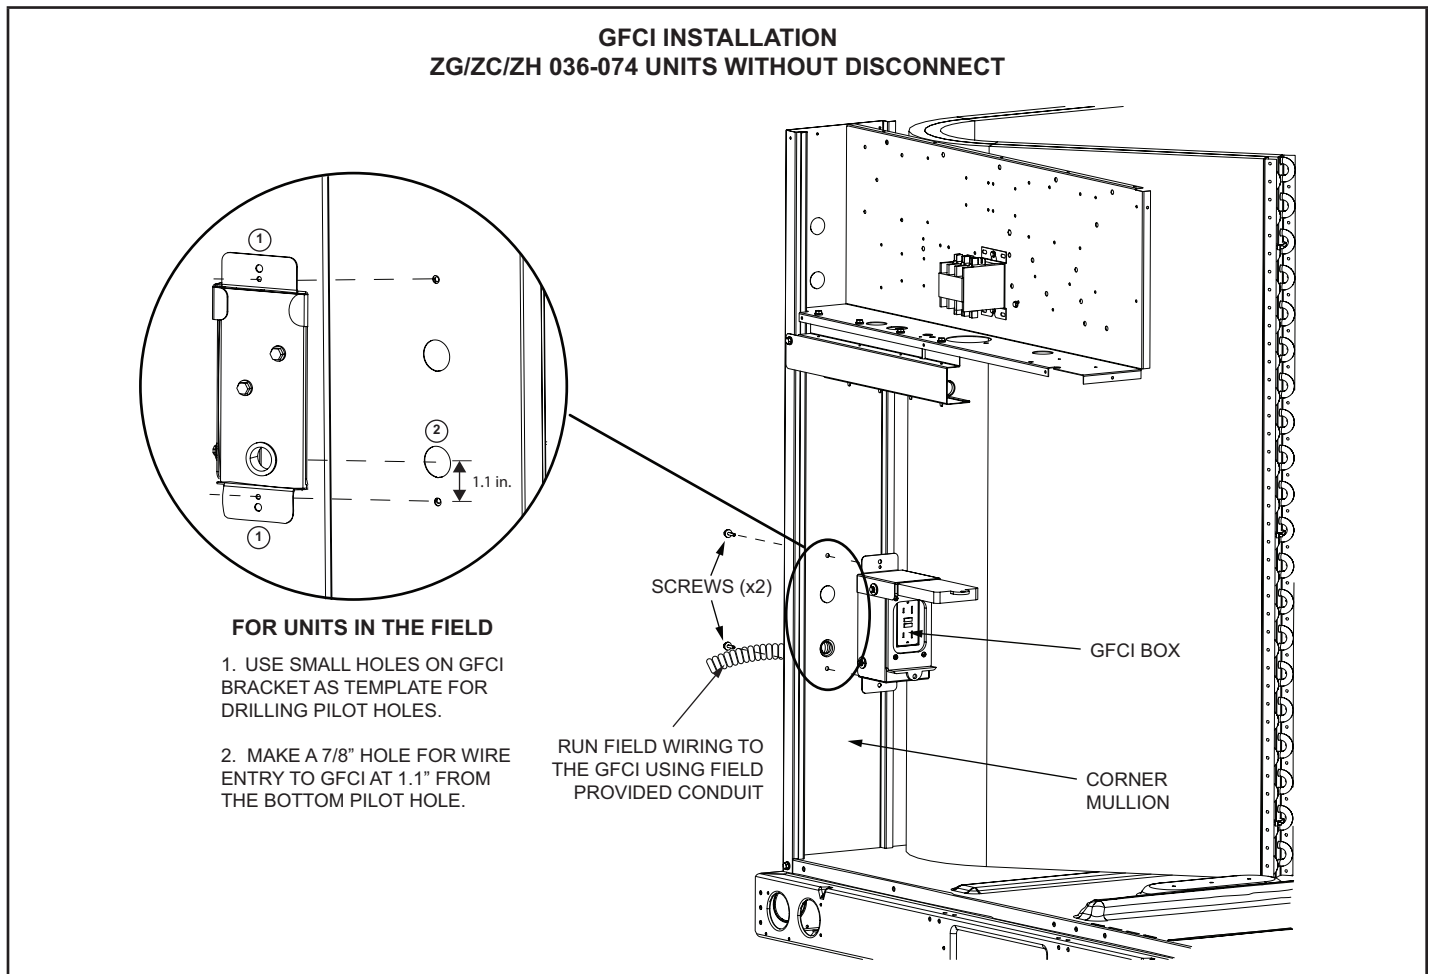

FIGURE 8
- 3 - For ZG/ZC/ZH 036 to 074 units without disconnect, the GFCI will be mounted to the corner mullion. For existing units in the field use the mounting bracket as a template for pilot holes. See FIGURE 8.